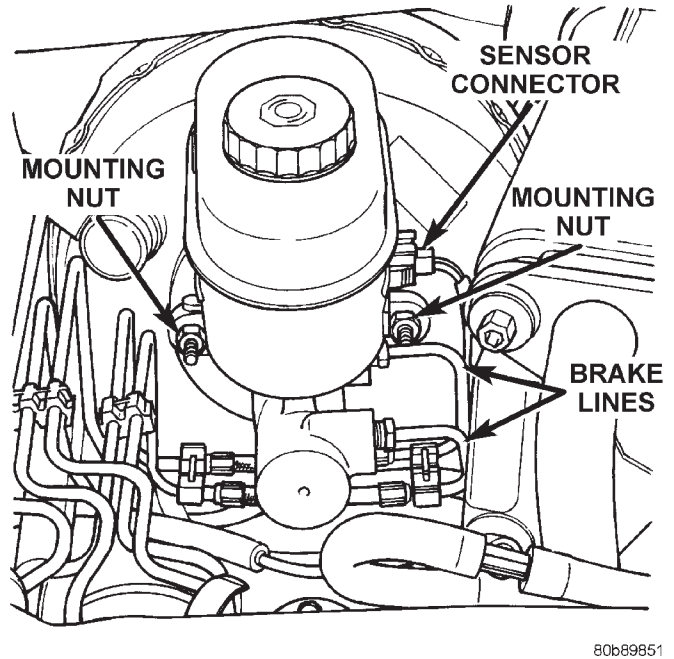

Fig. 20 Master Cylinder Mounting
- (1) Remove the wire connector from the brake fluid level sensor.
- (2) Remove brake lines from master cylinder.
- (3) Remove nuts that attach master cylinder to booster studs (Fig. 20).
- (4) Remove master cylinder from booster.